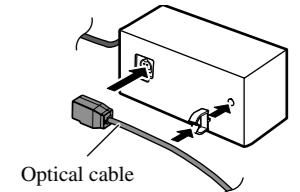

Fig. 8
2. Connect the optical cable to the optical cable connection box. (Fig. 8)